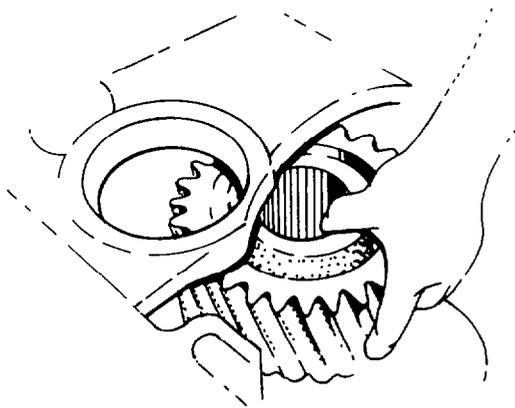

Fig. 241 — Removing Drive Shaft Gear
- ai. Turn the transfer case 180 degrees (rear of case facing up), then remove the drive shaft gear from the case (see fig. 241).